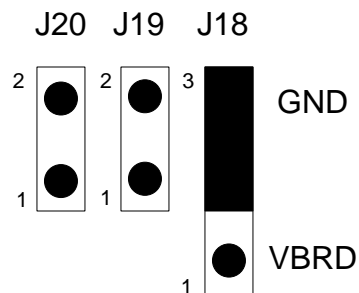

Figure 3. TTL-compatible serial communication
The EM250 breakout board enables TTL-compatible communication with the EM250 SC1 UART. Pin 2 of peripheral headers J19 and J20 expose the TXD and RXD signals from SC1 UART. To reduce the risk of contention, connect the jumper at J18 so that the center pin connects to ground (pin 3). Figure 3 illustrates this connection scheme.
2. Connect jumpers at J18, J19, and J20, as shown in Figure 3.
3. Use the jumpers previously on J20 and J19 for GPIO10 and GPIO9 on J5, as shown in Figure 3.